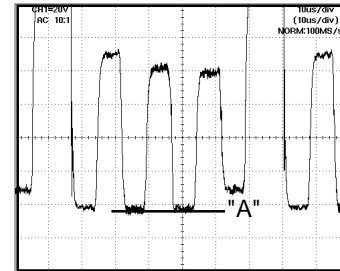

Fig. 2-3
4. Press the VOL. UP/DOWN button on the remote control until the section "A" becomes as straight line (**Refer to Fig. 2-3**)